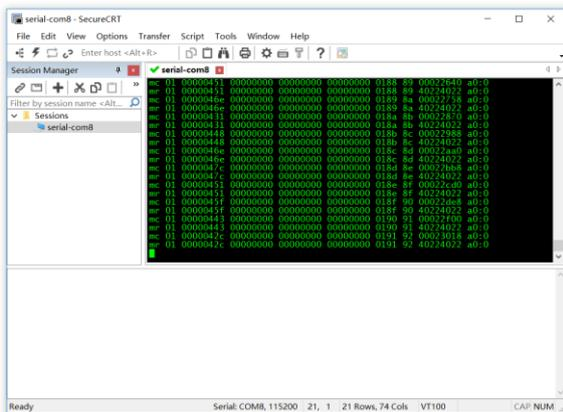

Figure 4.6.1 Serial assistant debugging display
- Figure 4.6.1 on the serial debugging assistant, received the CH340 TOF reporting Message data message, as shown in Figure 4.6.1;